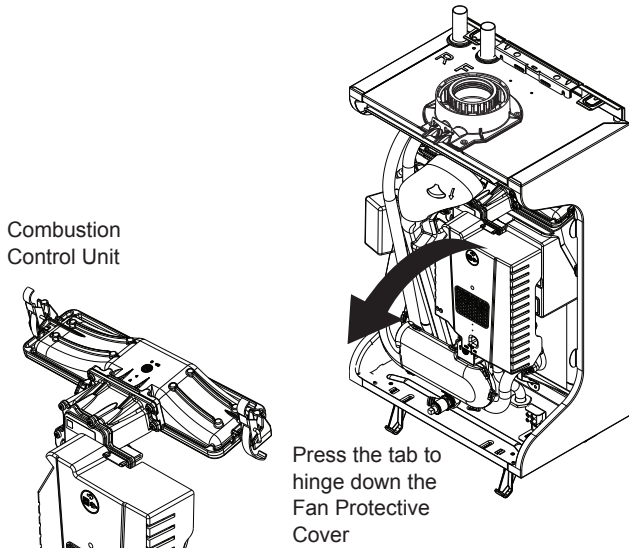

Fig. 47
10.3.10 Combustion Control Unit (Figs. 47 to 50)
2. Disconnect the cable from the bottom of the PCB, disengage the fan protective cover securing tab and lower the cover after disconnecting the electrical test point (Figs. 47 & 48)